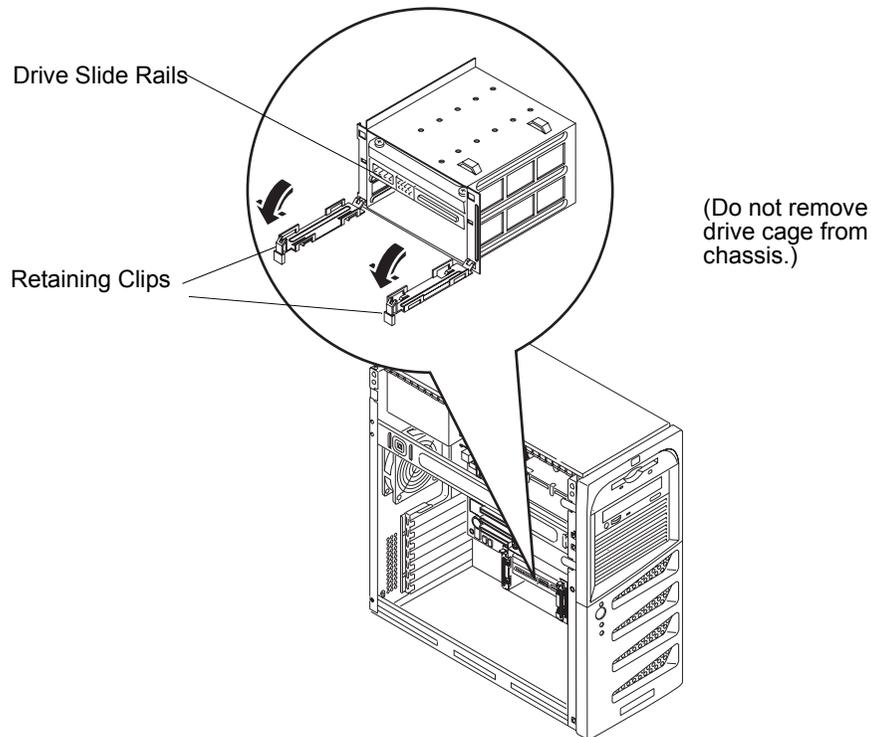

Figure 3-6. Releasing the Retaining Clips
4. Press and release the retaining clips at the sides of the drive cage. See *Figure 3-6*.